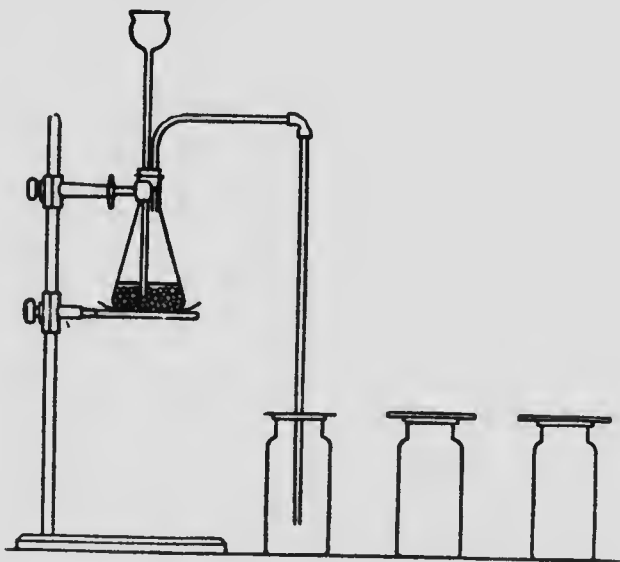

FIG. 42.
**Sketch.**—Fig. 42.
(1) Holding the flask horizontally, carefully introduce 10 grms. of iron sulphide, and set up the apparatus as shown in Fig. 42. Cover the iron sulphide with 25 cc. dilute sulphuric acid. Collect 3 cylinders of the gas, keeping the bottle covered while collecting, by bringing the delivery tube through a piece of paper with a hole in it. Note the physical properties of the gas.
(2) Test the gas with a lighted candle (on a wire). Observe what happens to the gas and to the sides of the bottle, and to the candle. Also note the odor left in the bottle.
(3) Place a piece of filter paper moistened with lead acetate in a bottle of the gas and note what happens. This is the test used to detect the gas.
(4) Pass the gas for some time into a test tube half filled with water. Note the odor of the water. Test the solution with blue litmus paper. Keep this solution for the next experiment.